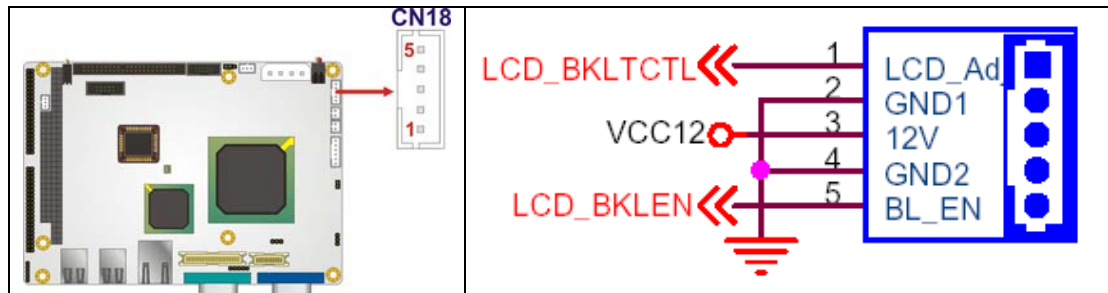

Figure 4-6: Panel Backlight Connector Pinout Locations
- CN Location:** See **Figure 4-6**